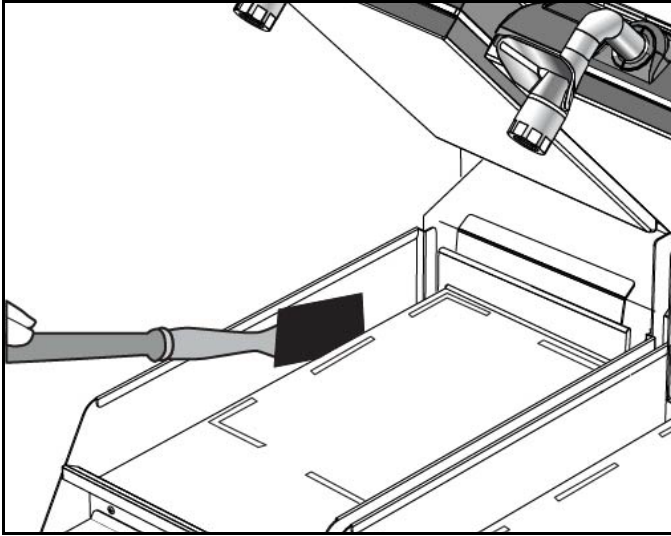

Figure 6-12
10. Place a small amount of grill cleaner onto the straight flat scrubbing tool gray no-scratch pad. Use this tool to clean hard to reach areas like those between and around the platens. Apply additional cleaner as needed. See Figure 6-12